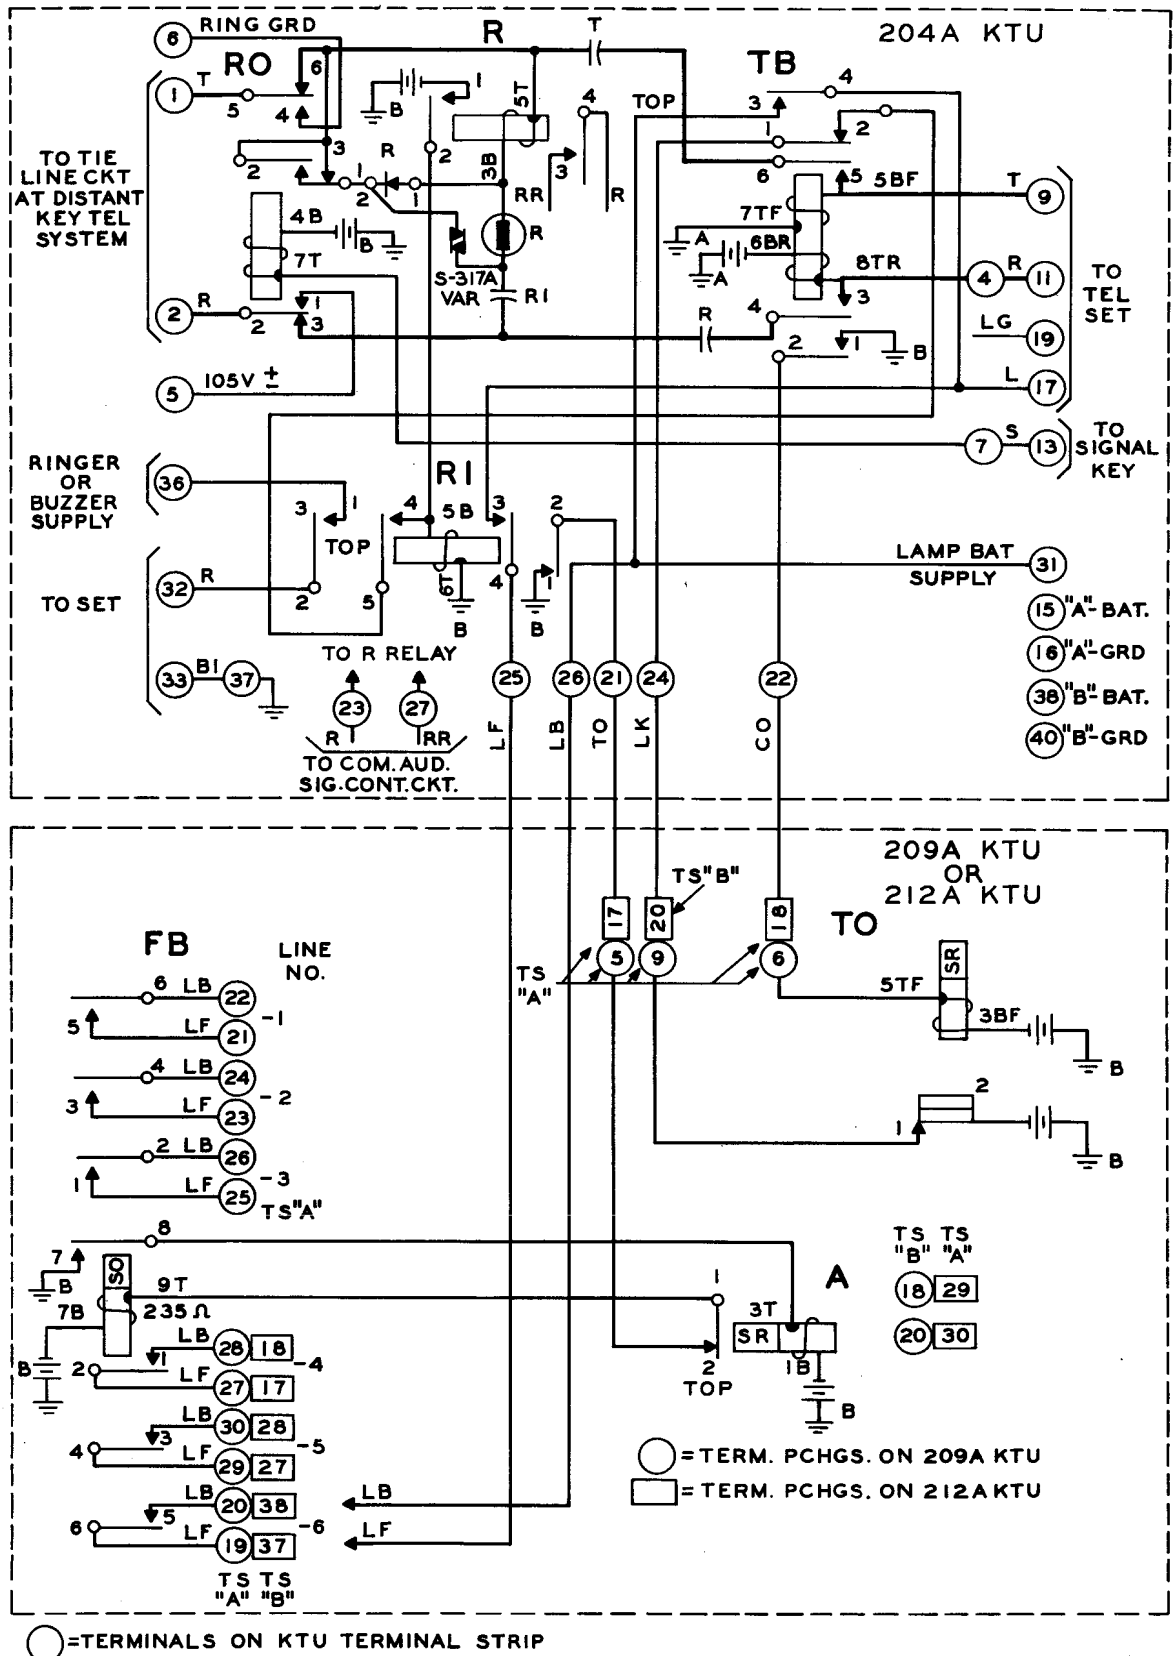

FIG. 2 - RINGDOWN-TIE LINE CIRCUIT - 204A AND 209A OR 212A KEY TELEPHONE UNITS
- Ringdown Tie Line Circuit (Fig. 2).
RINGDOWN TIE LINE (FIG. 2)